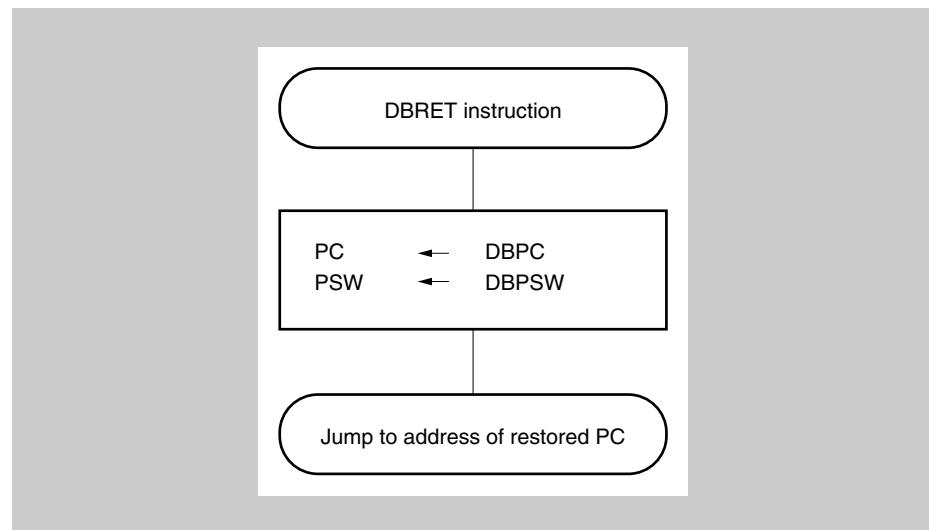

Figure 5-13 Restore processing from exception trap
*Figure 5-13 illustrates the restore processing from an exception trap.*